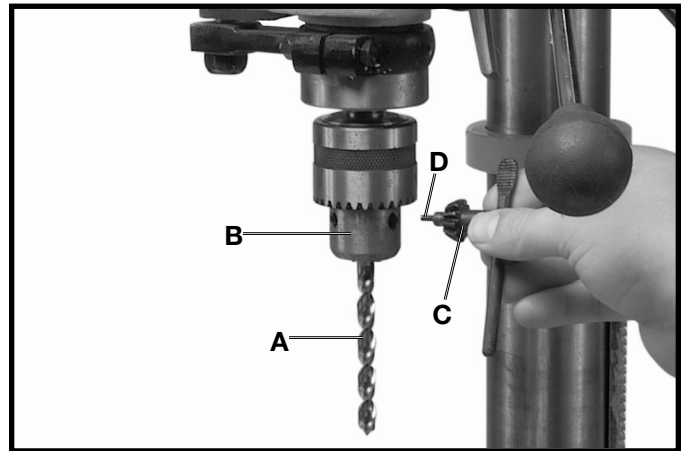

Fig. 33
1. Insert smooth end of drill bit (A) Fig. 33, into chuck (B), as far as it will go, and then back the bit out 1/16", or up to the flutes for small bits.
2. Make certain that the drill bit (A) Fig. 33, is centered in the chuck (B) before tightening the chuck with the key (C).
3. Turn the chuck key (C) Fig. 33, clockwise to tighten and counterclockwise to loosen the chuck jaws.
5. **⚠ CAUTION MAKE SURE** chuck key (C) Fig. 33, is removed from chuck before starting drill press. Your chuck key (C) is equipped with a self-ejecting pin (D) which helps minimize the hazard of the key being left in the chuck.